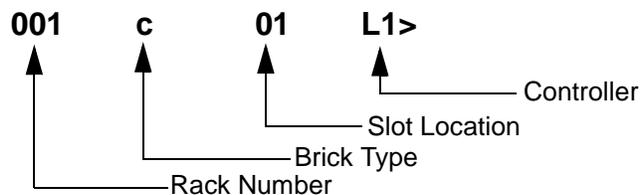

**Figure 1-2** Rack Numbering
**Note:** Brick positions for an SGI 3400 system are not represented in Figure 1-2; bricks in a SGI 3400 series system begin at U7.